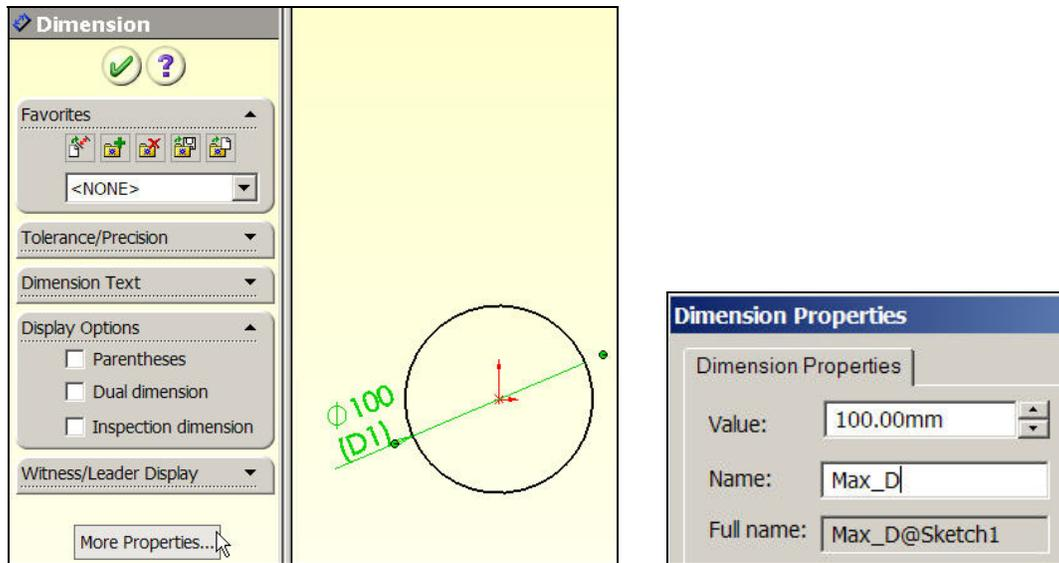

Figure 2 Specify the outer cylinder diameter size and name
7. There **type** the desired name, say **Max_D→OK**, as seen in Figure 2.